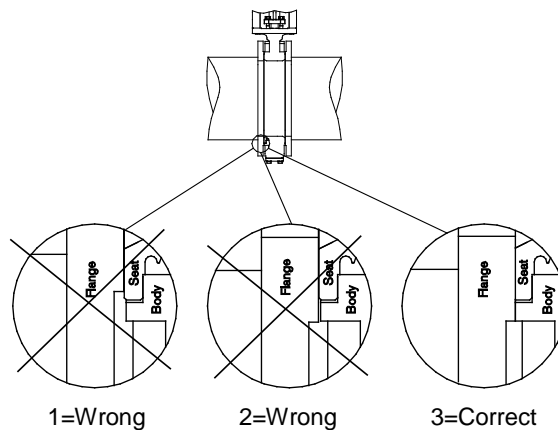

Fig. 6
3. Tighten the bolts first manually and then evenly and crosswise, for a uniform load of the gasket, with a torque as required by the gasket manufacturer. Valve type **SLV, SLF, SLH and SLX** shall be assembled with the mating surfaces of the valve body and the pipe flanges up to metal/metal contact. See fig. 6.